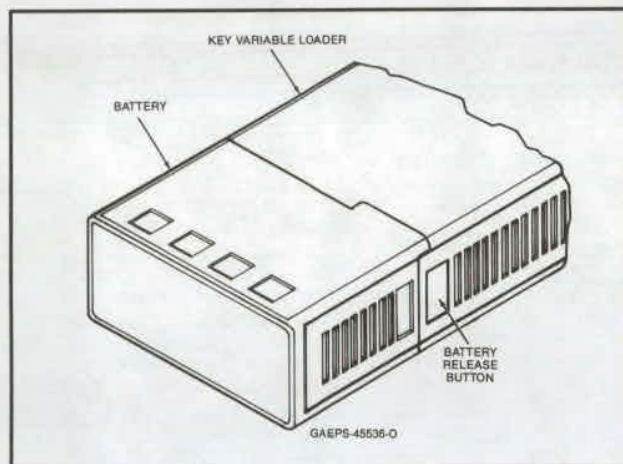

Figure 1. Battery Release
Step 2. Hold the unit in the right hand and press and hold the battery release button with the right thumb (See Figure 1).